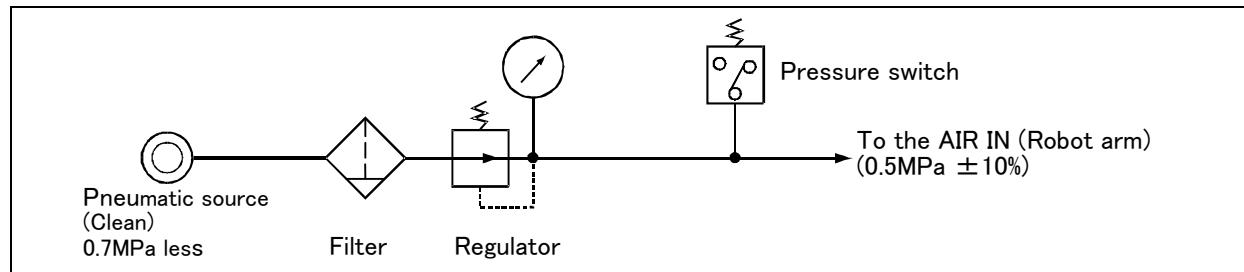

Fig.2-13 : Air supply circuit example for the hand
Fig. 2-13 shows an example of pneumatic supply circuitry for the hand.
- (1) Place diodes parallel to the solenoid coil.
- (2) When the factory pneumatic pressure drops, as a result of the hand clamp strength weakening, there can be damage to the work. To prevent it, install a pressure switch to the source of the air as shown in Fig. 2-13 and use the circuit described so that the robot stops when pressure drops. Use a hand with a spring-pressure clamp, or a mechanical lock-type hand, that can be used in cases where the pressure switch becomes damaged.
- (3) The optional hand and solenoid valve are of an oilless type. If they are used, don't use any lubricator.
- (4) If the air supply temperature (primary piping) used for the tool etc. is lower than ambient air temperature, the dew condensation may occur on the coupling or the hose surface.